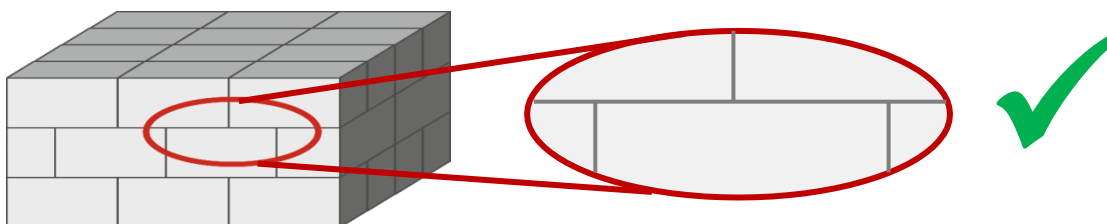

Fig. 32: High stability due to composite stacking
- The offset stacking of transport cartons (see Fig. 32) creates a level of stability as can be seen in wall construction.